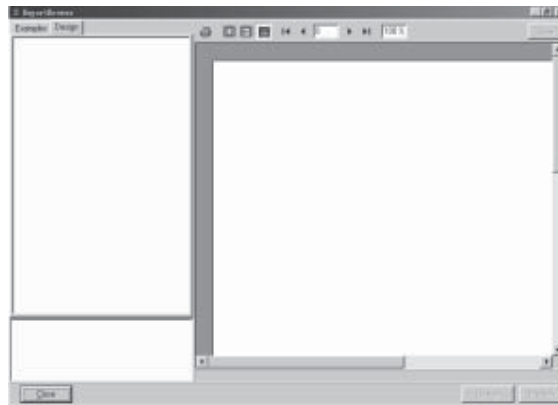
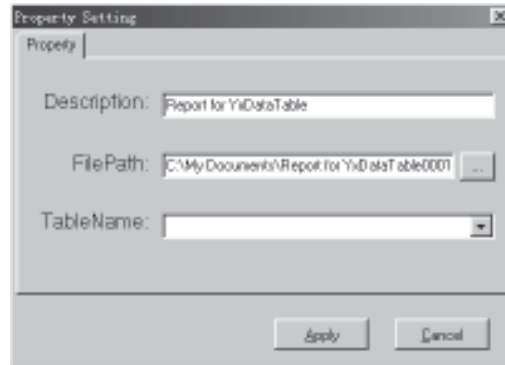
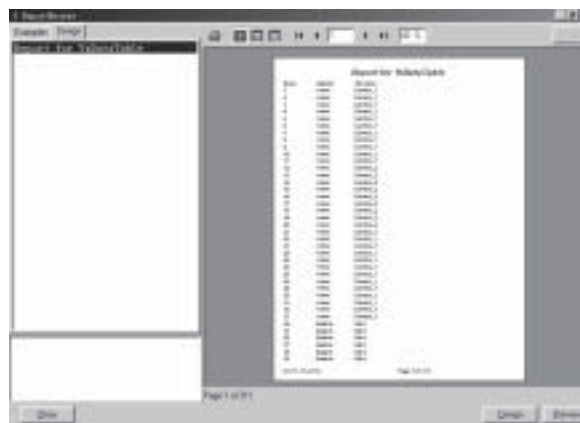

Fig. 8-21 Select the Page Key ;°Design;±
Fig. 8-24 Entering the Options
Fig. 8-25 The Page After Clicking the button `°Apply`
2. Design the Report: Select the page key ;°Design;±and the listing table is empty if opened for the first time, as in Fig. 8-21.
In Fig. 8-21, enter the name describing the use of the report in the position of `°Description` and the path and name of the report in the position of `°FilePath` or click the button `...` to open the dialogue block of selecting the files to be opened. Then click the button `°Apply` in Fig. 8-24. And at the same time, a new record is added to the listing table frame as in Fig. 8-25.